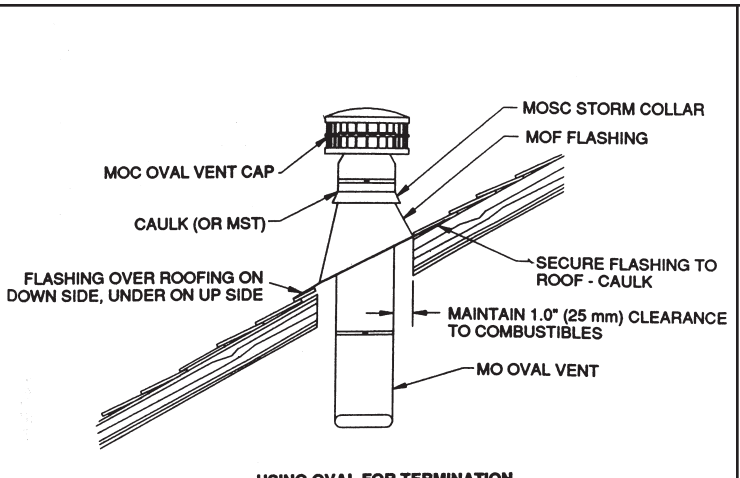

FIGURE 6
4. If your installation terminates as oval, the Oval Flashing (MOF) and Oval Storm Collar (MOSC) are shown in Figure 6. An Oval Vent Cap (MOC) completes the installation.